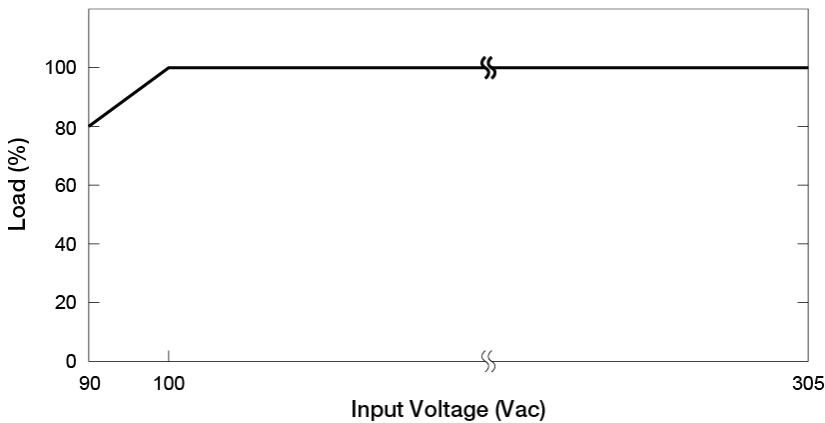

Fig. 1 De-rating for Horizontal Mounting Orientation
1. Power supply components may degrade, or be damaged, when the power supply is continuously used outside the shaded region, refer to the graph shown in Fig. 1.
- If the device is continuously operating in a mounting orientation other than those shown in Fig. 2. or at high ambient temperature outside the shaded region shown in Fig. 1., the device may be damaged or degraded.